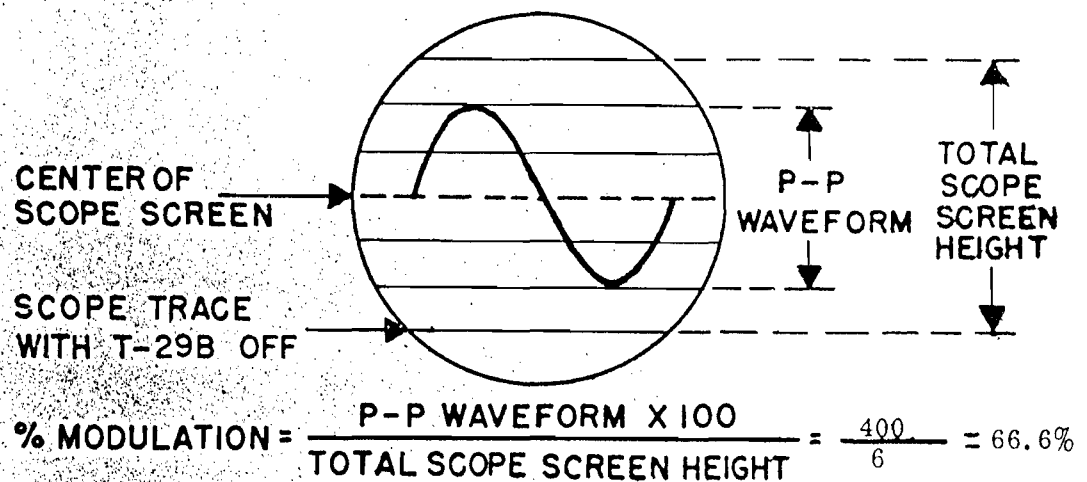

FIG. 4B
- d. Calculate % modulation. This is equal to 100 times peak-to-peak waveform divided by total scope screen height. See Fig. 4B.